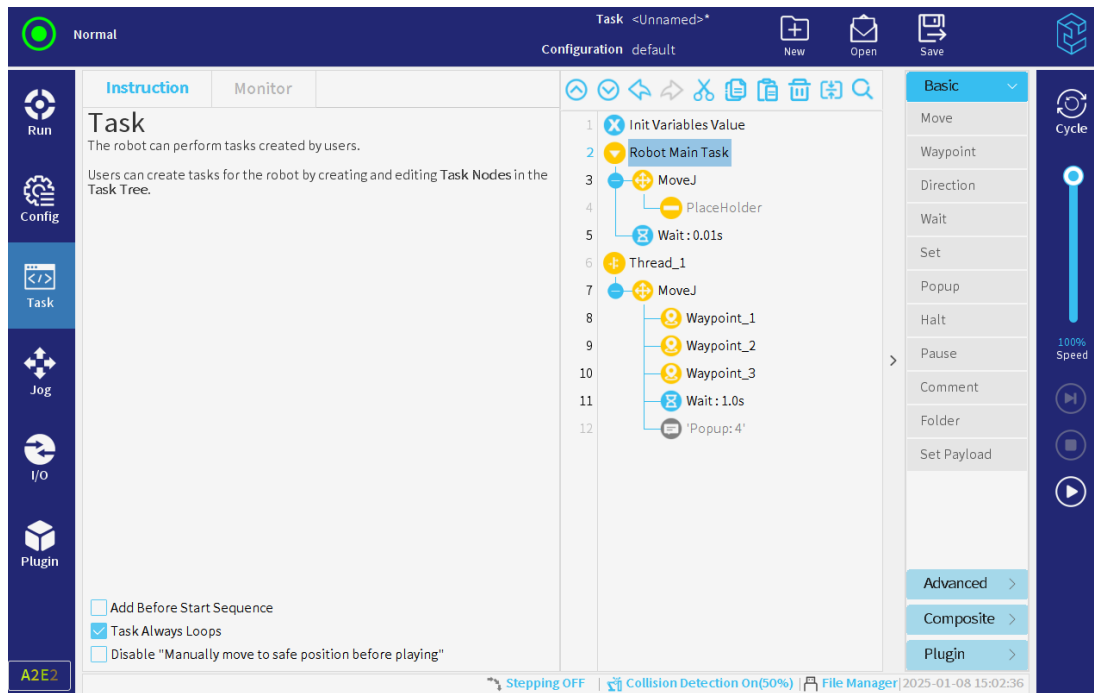

Figure 3-130 : Breakpoint
- If these nodes are selected, the line number goes to light blue (see the line number "6" in **Figure 3-130**);
- If they are not selected, the line number is marked as light green (see the line number "4" in **Figure 3-130**).